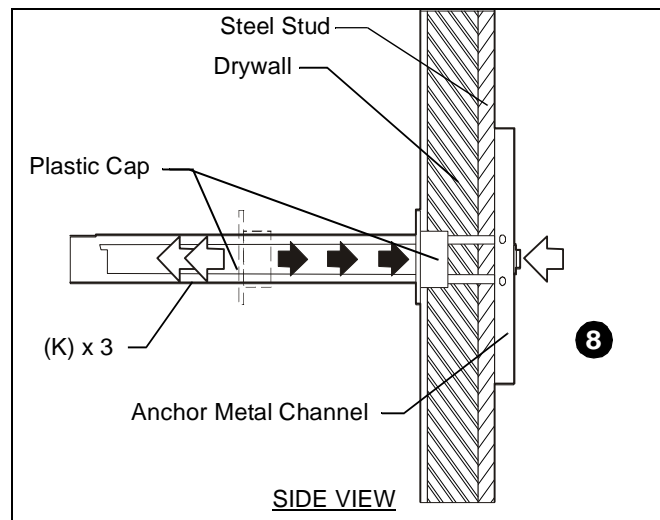

Figure 26
7. Holding plastic straps on anchor (K), pull anchor away from wall until channel rests flush behind wall making sure anchor channel is positioned vertically on stud. (See Figure 26)
8. Slide plastic cap on anchor (K) towards wall until flange of cap is flush with wall. (See Figure 26)